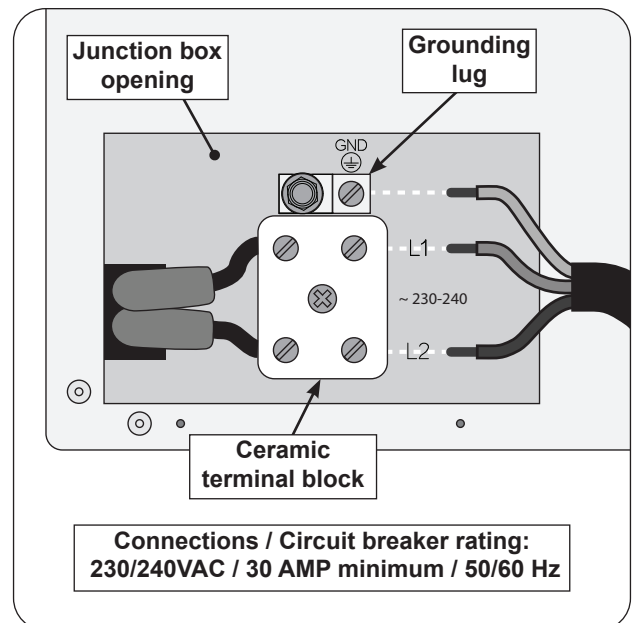

Fig. 29-3 Wire connection diagram
3. Connect the wires to the ceramic terminal block. Reference the wiring information below and Fig. 29-3.